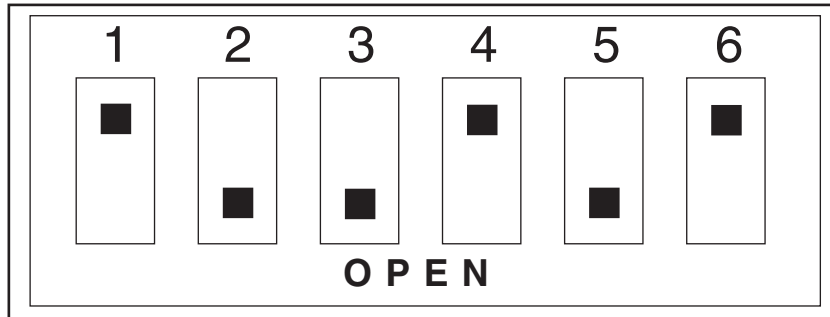

Figure 8: DIP Switches
A six (6) position dip switch (see Figure 8) has been installed on the processor card of the Cahn C-34/35 to control configuration of the serial I/O port. This switch allows the user to select the baud rate, word length, number of stop bits and operating mode of the balance. The red dip switch is in the lower right corner of the card. DO NOT REMOVE CARD to change dip switch positions. Change the dip switch setting only when the power to the balance is OFF. After setting the switches, replace the cover immediately to prevent damage to the instrument.